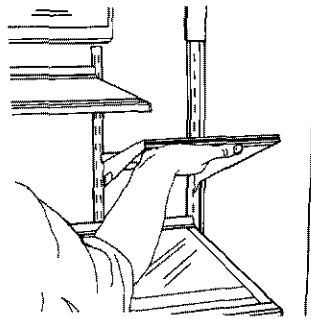

FIGURE 54
2. Lift shelf and pull out. See Figure 54. To install, tilt shelf and engage upper hooks in desired track slots. Lower shelf front and tap downwards near the tracks until shelf hooks are securely seated and shelf is level.